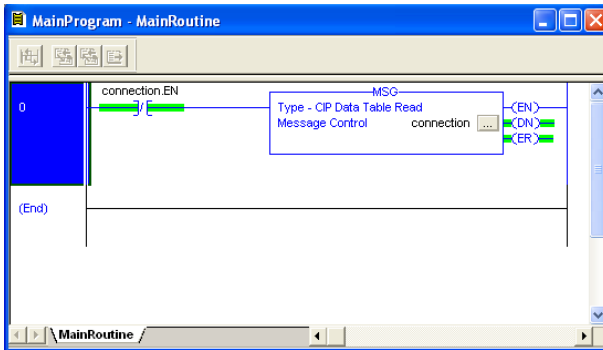

Figure 93: Complete Program
- 6) The program is now complete. Refer to Figure 93.